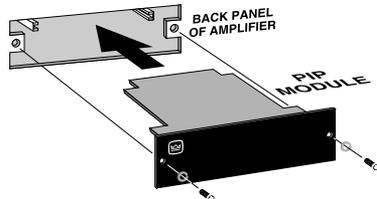

Fig. 2.3 Installation into a Standard PIP Amplifier
6. Standard PIP Amplifiers: Align the edges of the P.I.P.–ATNB in the PIP card rails and firmly push the unit in until it is seated against the mounting bracket (see Figure 2.3).